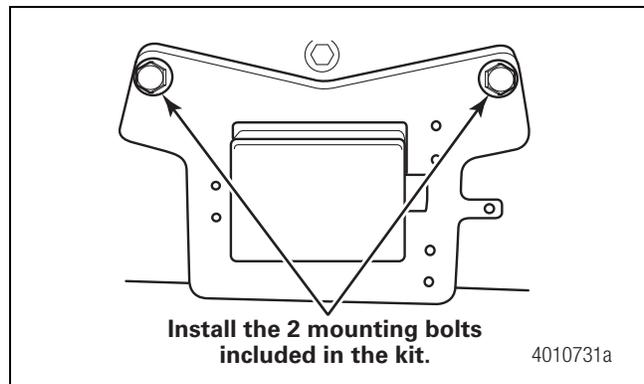

Figure 5
- Place the new radar sensor and bracket onto the tractor in the same position as the old bracket and radar sensor. Make sure the radar sensor and bracket are mounted with the radar sensor facing outward toward the front of the vehicle. Install the two 1/2" mounting bolts provided in the kit and dry tighten to 100 ft-lb (135 N•m). Figure 5.